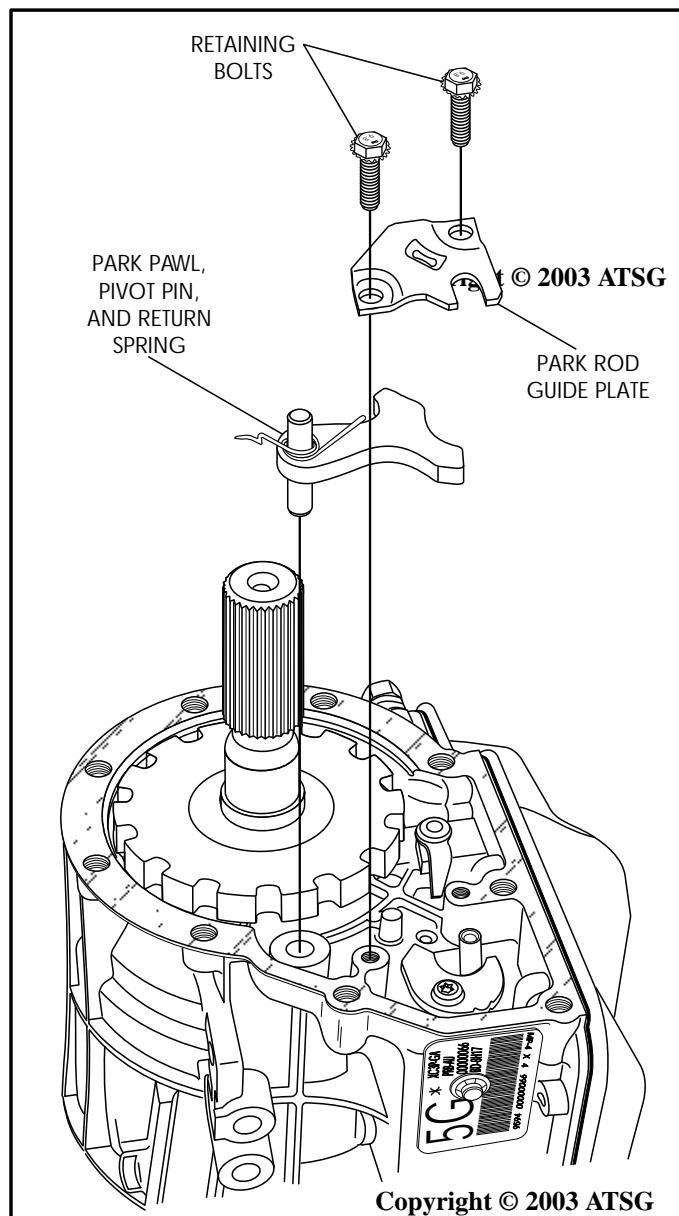
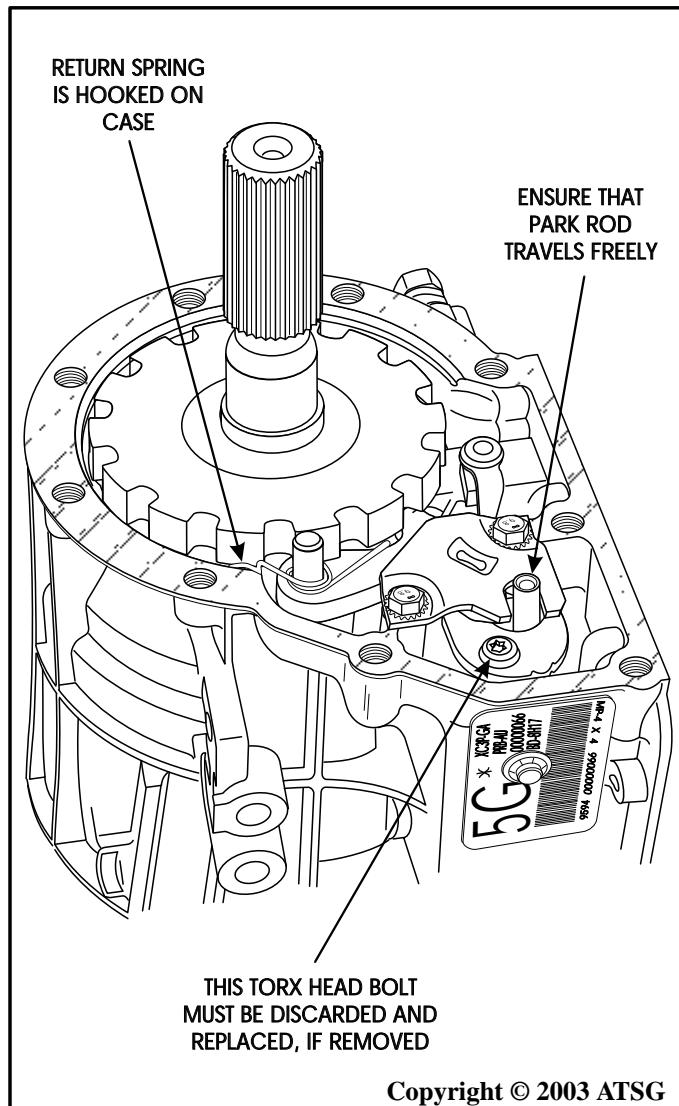

Figure 90
Figure 91
21. Install the parking pawl, pivot pin and return spring, as shown in Figure 90, and ensure that it is hooked properly behind the case, as shown in Figure 91.
22. Install the parking rod guide plate, as shown in Figure 90.
- Note:** Ensure that park rod operates freely through the guide plate (See Figure 91).
24. The Torx head bolt retaining the park pawl abutment plate, shown in Figure 91, has thread locking compound and should not be removed unless damage is apparent.